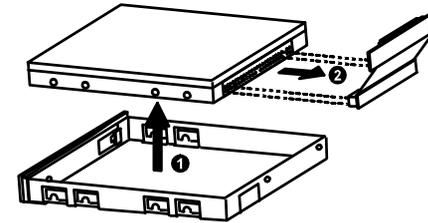

Figure 7-12. Removing the Hard Disk Drive and Connector Card
1. ALIGN THE CONNECTOR CARD WITH THE HARD DISK DRIVE CONNECTOR AND FIRMLY PLUG THE CONNECTOR. THEN ATTACH THE HARD DISK DRIVE TO THE BRACKET.(ref fig 7-12)